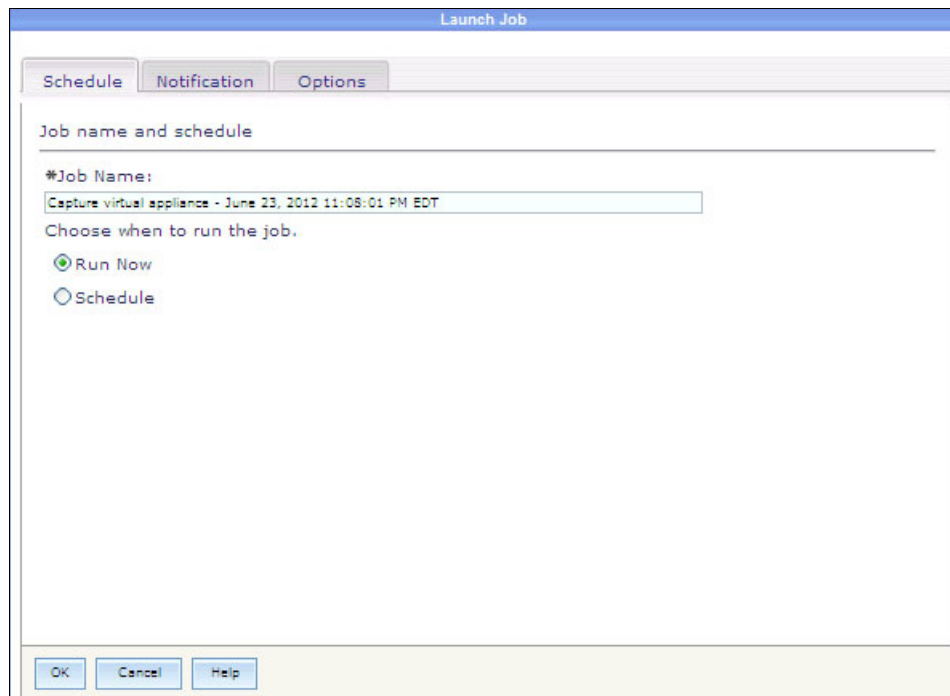

Figure 9-154 Run job now
15. Click **OK** to run the job as shown in Figure 9-154 and begin to capture your virtual server.